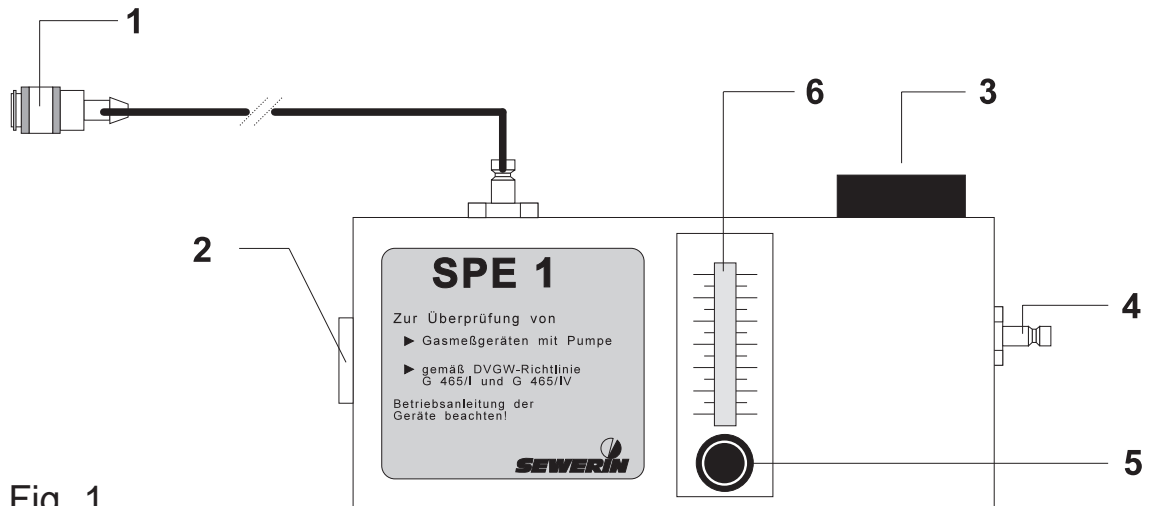

Fig. 1
- screw the selected test-gas bottle onto the tester as far as it will go (fig. 1/2 - item 2)
- connect the probe nipple of the detector (item 3) to the tester hose (fig. 1/2 - item 1)
- switch the detector on: the pump draws in **fresh air** through the tester (fig. 1/2 - item 4)
- maximise the flow rate with the needle valve (fig. 1/2 - item 5) - it must be greater than 50 l/h (fig. 1/2 - item 6)
- press the tester's release button (fig. 1/2 - item 3) and correct the flow rate to the value with fresh air (fig. 1/2 - item 6)